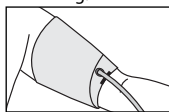

Fig. 8
6. If the arm has a conic form, the cuff should be put on with a spiral movement as shown in the fig. 8.